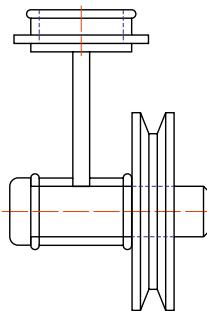

Fig. 10.19 Example – Xrefs
Example – External References (Fig. 10.19)
- Now reopen the original drawing. The **external reference** within the drawing has changed in accordance with the alterations to the spindle drawing. **Fig. 10.19** shows the changes in the front view of the original drawing.